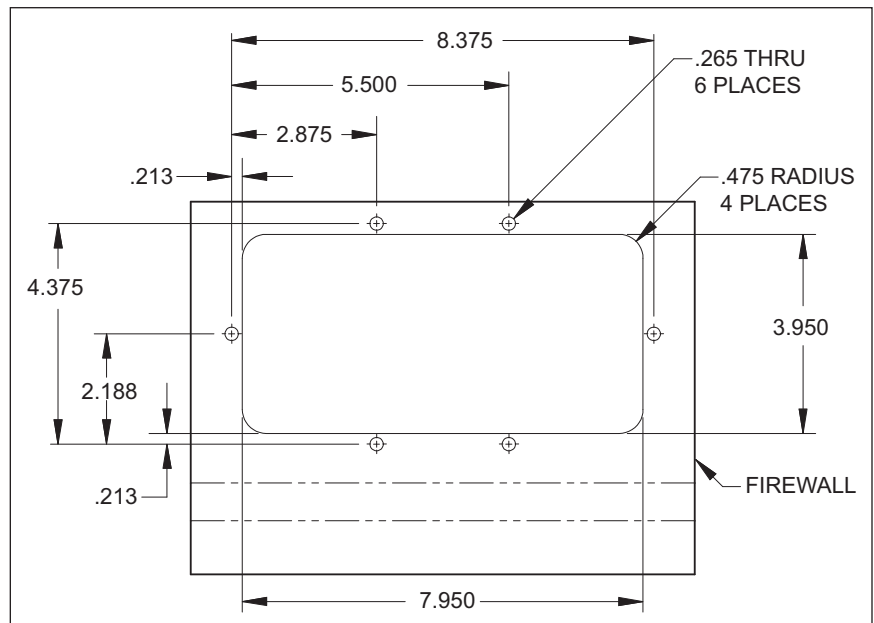

Figure 1. Faceplate Cutout Mounting Dimensions
- Using the dimensions in Figure 1, layout the cutout and six mounting hole locations on the firewall.